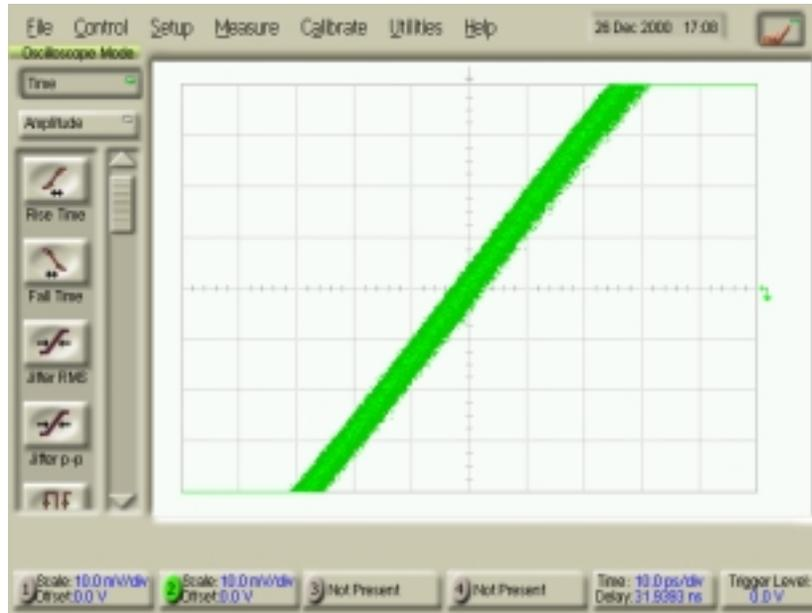

Figure 2-13. Rising Signal Intersecting with Center of Screen
- 19 On the DCA front panel, slowly rotate the Horizontal Position knob clockwise until the rising edge of the signal intersects the center of the screen. See Figure 2-13.